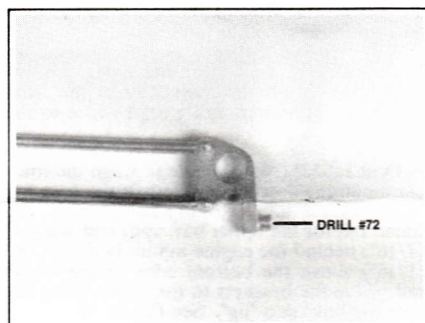

Figure 4
D. The four-bar links rear fitting should be a slip fit on the axle tubing. The links front end should be mounted to a frame side-rail. Before you mount the four-bar links, drill .025" (No. 72) holes in the mounting boss on the lower horn for the lower shock body mount. See Figure 4. Use a small length of brass rod as a pin, and don't glue the lower end of the shocks to the four-bar links until you are ready to install the rear axle in the frame.